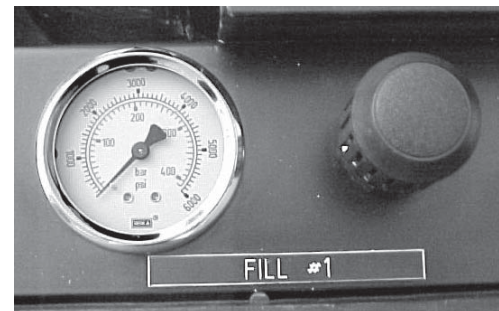

figure 7
5.9. Watch the SEA fill pressure gauge (CAG1). Fill the cylinder at a rate not to exceed 500psi per minute (figure 7).